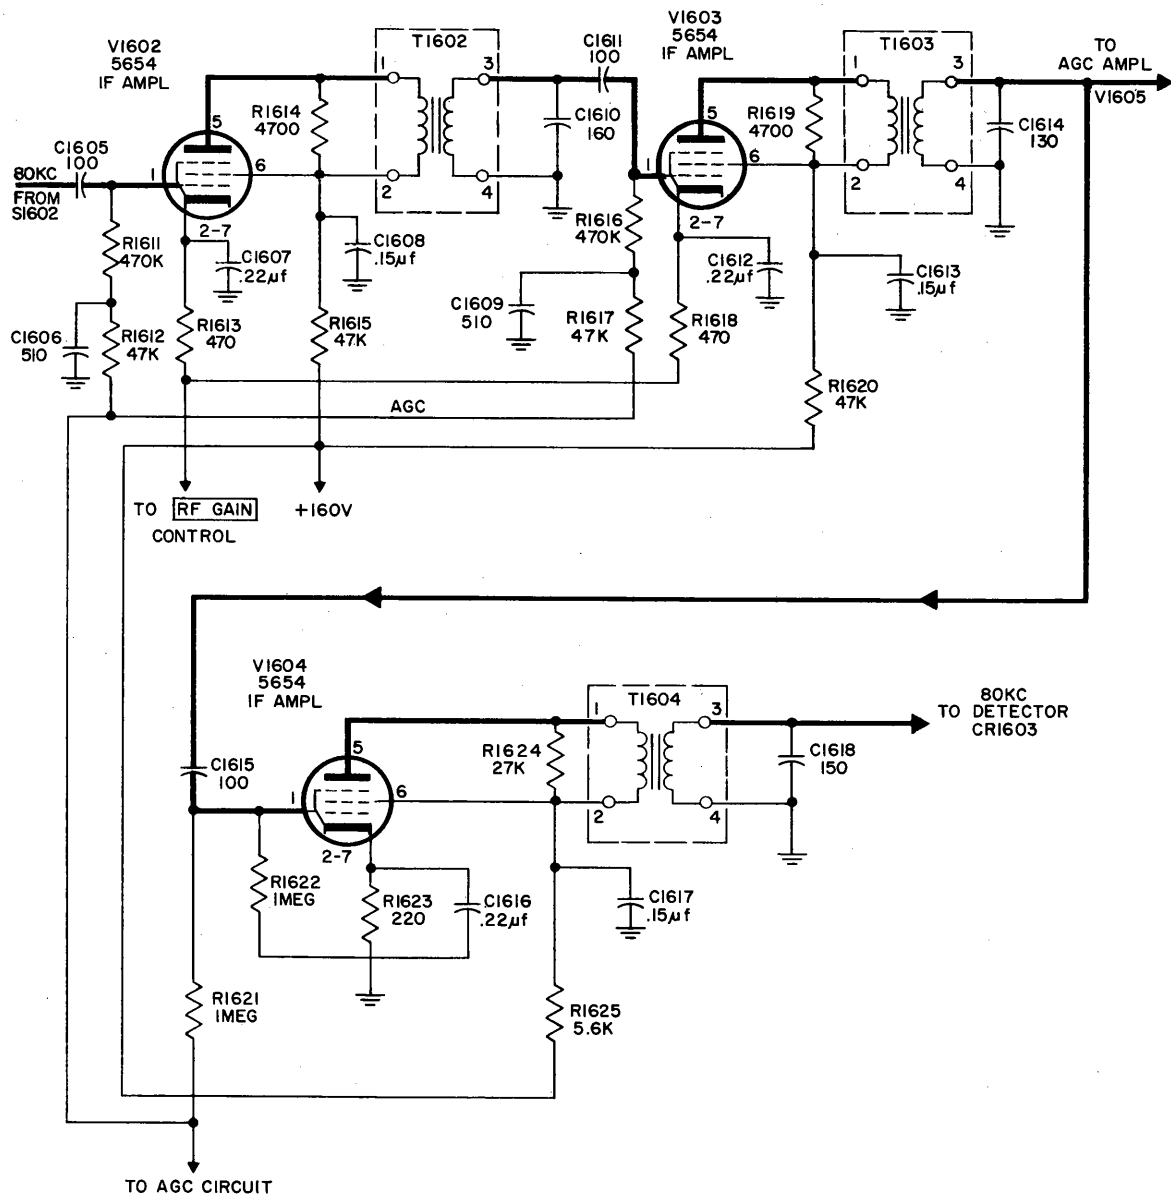
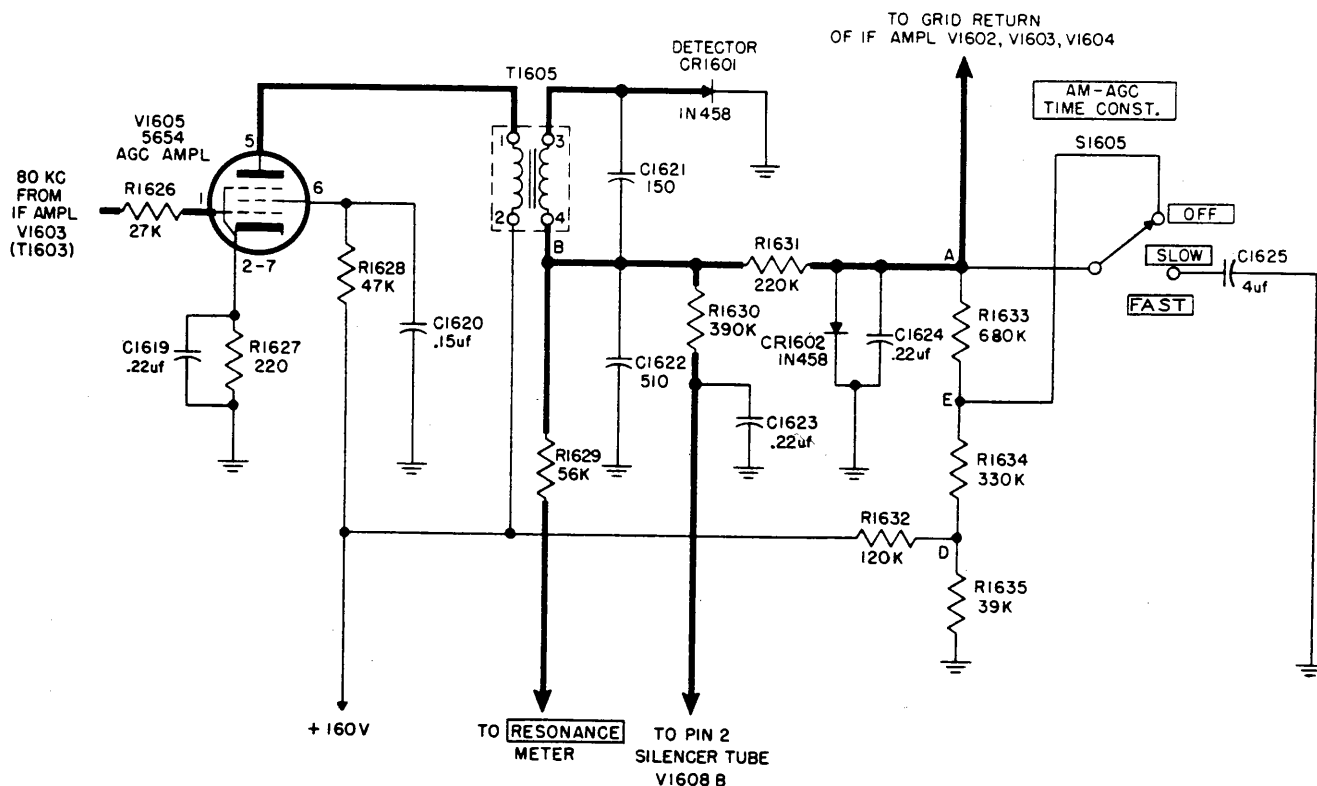

Figure 4-19. IF Amplifiers V1602, V1603, and V1604, Simplified Schematic Diagram
Figure 4-20. Automatic Gain Control Circuit of AM Detector-Amplifier, Simplified Schematic Diagram
Figure 4-19 shows the signal from the selected band-pass filter applied to V1602 through C1605. The output of V1602 is developed across IF transformer T1602 and applied to IF amplifier V1603 via C1611. The gain of V1602 and V1603 is governed by the R.F. GAIN control. The output of V1603 is developed across T1603 and applied to IF amplifier V1604 through C1615. A portion of this signal at T1603 is applied also to the AGC circuit. V1604 develops its output across T1604 and applies it to the detector stage (subpar. c). An AGC voltage is applied to the control grids of amplifiers V1602, V1603, and V1604 to maintain control of the output signal amplitude. The development of this AGC voltage is described in subparagraph *b* below.
*b. AUTOMATIC GAIN CONTROL CIRCUIT.* (See figure 4-20)—An 80 kc IF signal taken from pin 3 of the secondary of interstage transformer T1603 (figure 4-19) is applied to the grid of AGC amplifier V1605. The amplified output of V1605 is developed at IF trans-
(A3) reception, cuts off receiver output when no signal is being received. The grid of silencer tube V1608B has two voltage sources—one, negative, from point B of the AGC circuit (figure 4-20) the other, positive, from potentiometer R1664, which is part of a voltage divider between regulated +105v and ground. Rotating the SILENCER control (upper demodulator panel) clockwise from its OFF position connects the cathode of V1608B to ground and simultaneously taps the voltage-divider network for a positive voltage to the grid of V1608B. If there is no signal at the receiver, the AGC circuit, being dependent for operation on an incoming signal, remains inactive. This makes the receiver extremely sensitive, permitting locally generated random noise and external interference to appear at the receiver output. With AGC inactive, the only voltage impressed on the grid of V1608B is that from voltage divider R1664. This makes the grid positive with respect to its cathode, resulting in a plate current sufficient to energize the coil of relay K1601, which is located in the plate circuit of V1608B. The plate current closes the normally open armature of K1601, grounding the input of the second AF amplifier (V1607) and preventing any signal from reaching the receiver output.